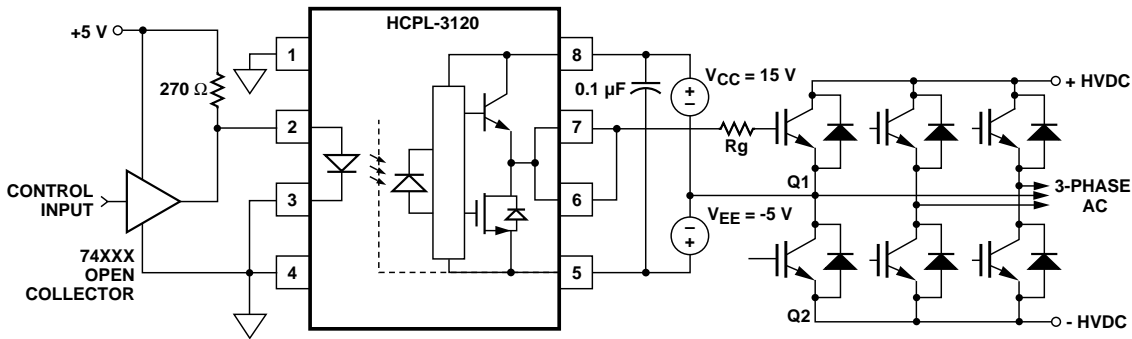

Figure 26. HCPL-3120 Typical Application Circuit with Negative IGBT Gate Drive.
**Step 1: Calculate Rg Minimum from the IOL Peak Specification.** The IGBT and Rg in Figure 26 can be analyzed as a simple RC circuit with a voltage supplied by the HCPL-3120.
For the circuit in Figure 26 with  $I_F$  (worst case) = 16 mA,  $R_g = 8 \Omega$ , Max Duty Cycle = 80%,  $Q_g = 500 \text{ nC}$ ,  $f = 20 \text{ kHz}$  and  $T_A \text{ max} = 85\text{C}$ :